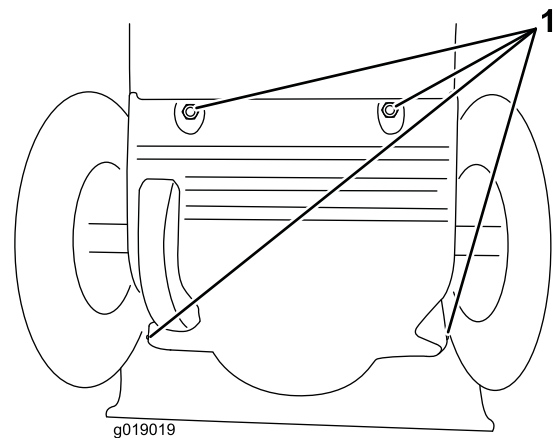

**Figure 33**
Lightly lubricate the hex shaft yearly with automotive engine oil (Figure 33).
**Important:** Do not get oil on the rubber wheel or the steel friction pulley because the traction drive will slip (Figure 33).